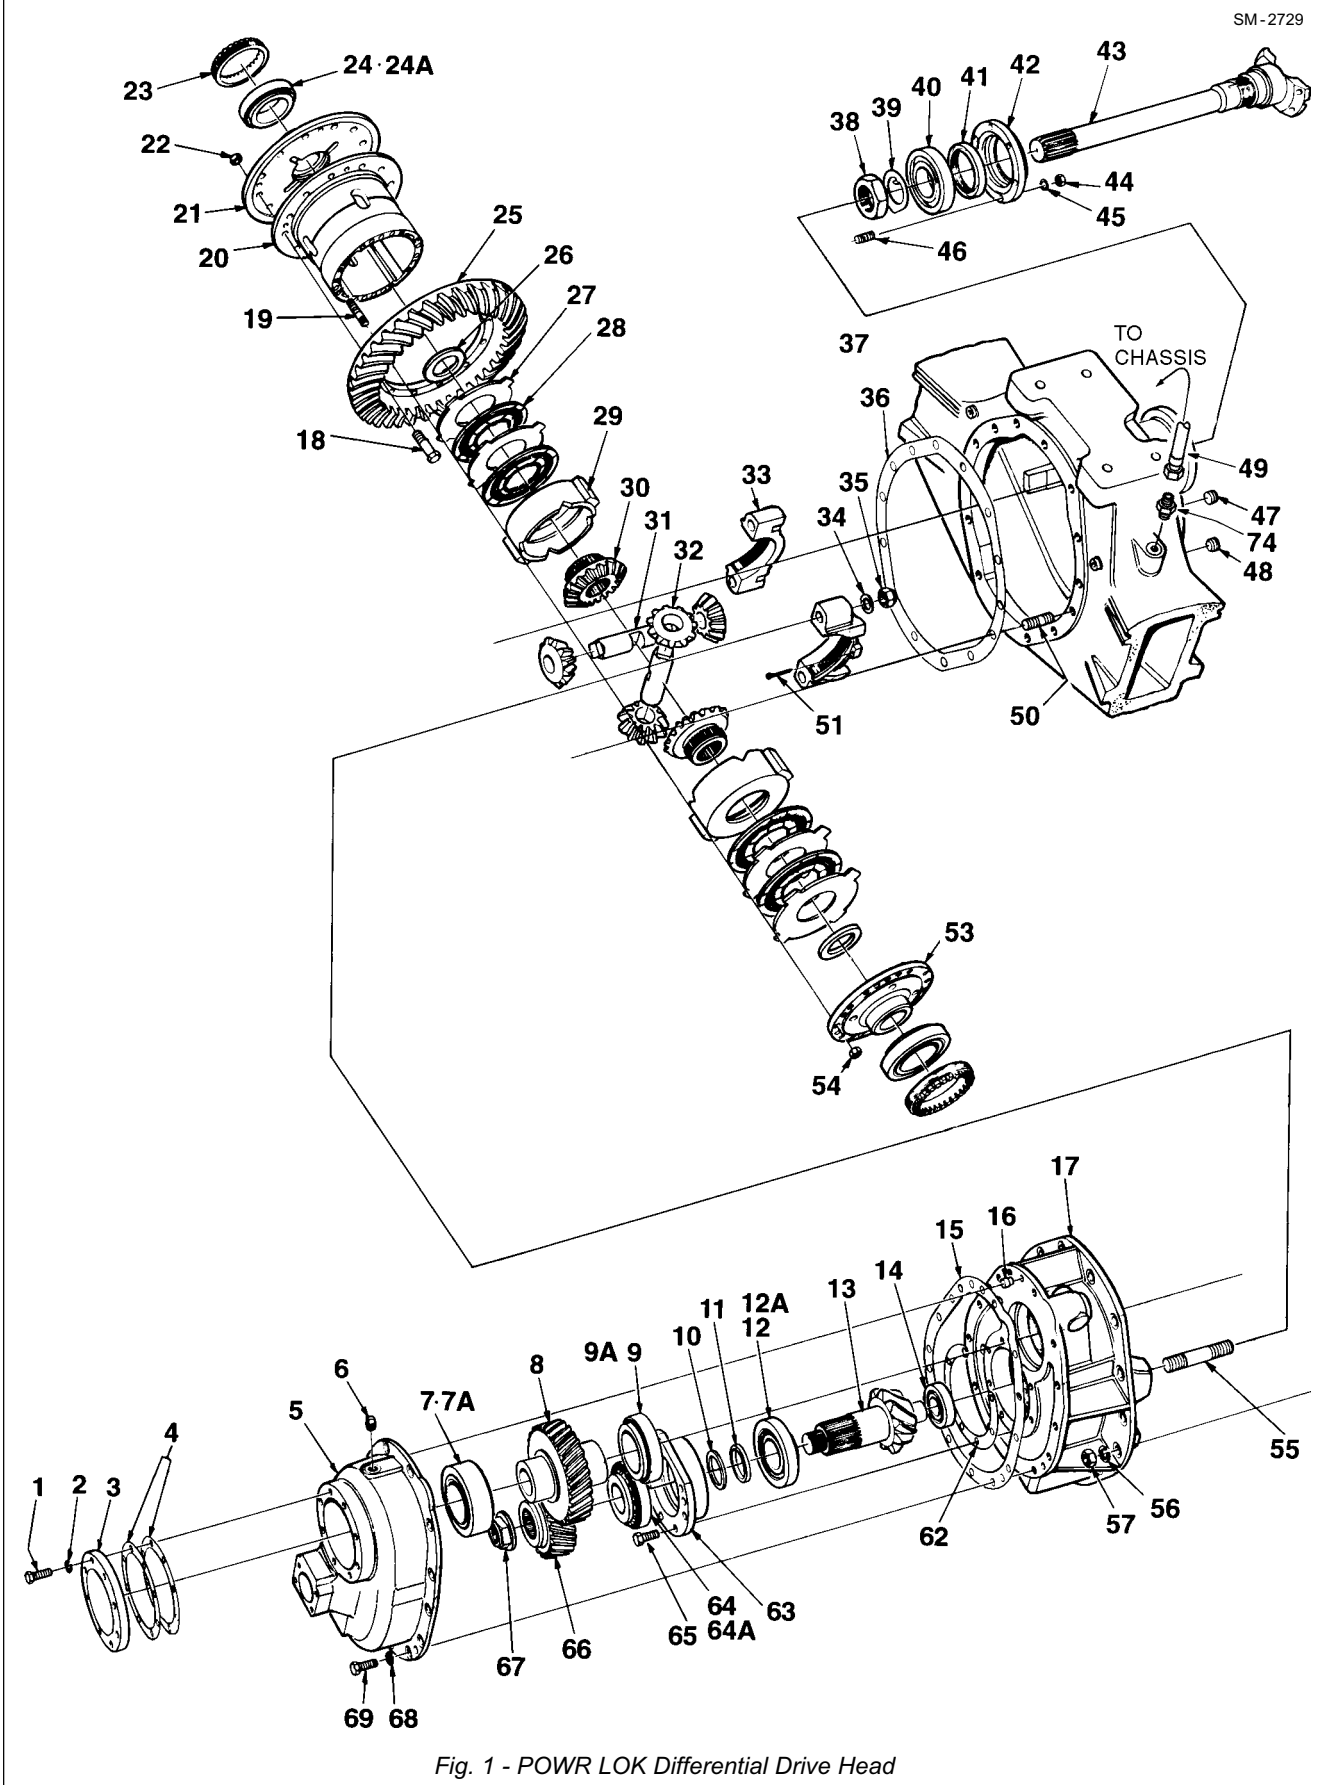

Fig. 1 - POWR LOK Differential Drive Head
Numbers in parentheses refer to Fig. 1, unless otherwise specified.
1. Position driveline assembly (1) on the vehicle as shown in Fig. 1 and align match marks on universal joints with those on their mating surfaces.
2. Apply Loctite 648 to the threads of capscrews (2). Secure universal joints to their mating surfaces with capscrews (2). Tighten capscrews (2) to a torque of 154 Nm (113 lbf ft).
3. Position driveline assembly (4) on the vehicle as shown in Fig. 1 and align match marks on universal joints with those on their mating surfaces.
4. Apply Loctite 648 to the threads of capscrews (5). Secure universal joints to their mating surfaces with capscrews (5). Tighten capscrews (5) to a torque of 154 Nm (113 lbf ft).
LEGEND FOR FIG. 1
Numbers in parentheses refer to Fig. 1.